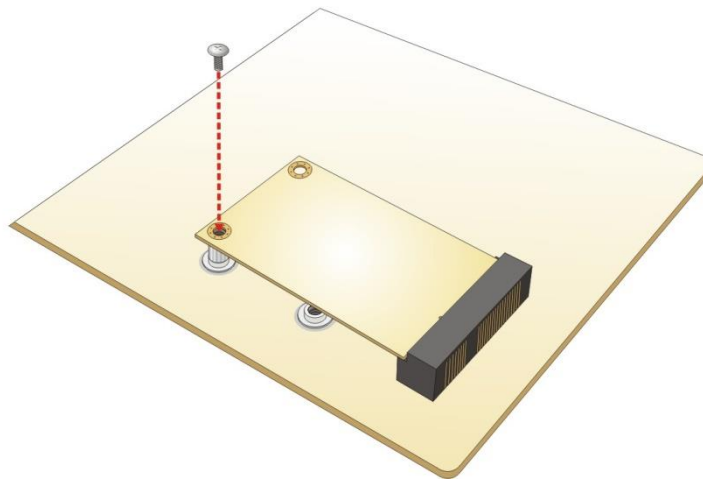

Figure 3-14: Securing the Full-size PCIe Mini Card
**Step 6:** Secure the full-size PCIe Mini card with the retention screw previously removed (**Figure 3-14**).